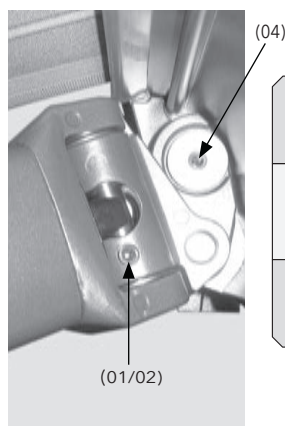

Fig. 13: Arm bracket - position of threaded pins
Extend awning approx. 2/3 of the awning projection. Remove threaded pin (01) of the incline adjustment with size 4 hex key. Through this threaded hole, tighten or loosen the second threaded pin (02) in the rear joint bolt using size 3 hex key until the arms are horizontal (see Fig. 13, 14).
- Tighten the threaded pin (02):
Securing the incline adjustment by firmly tightening the threaded pin (04) using size 3 hex key (see Fig. 13).